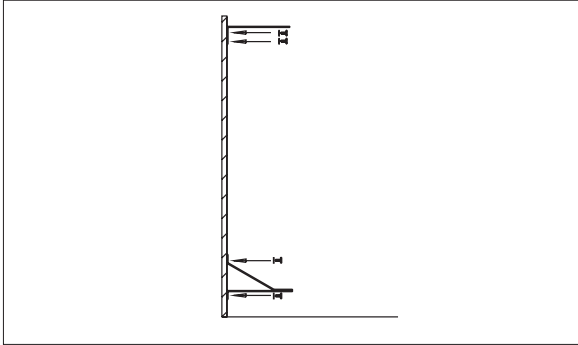

Figure 3 – Install mounting bracket
Step 1: Secure wall and stabilizing brackets to mounting surface (Figure 3).